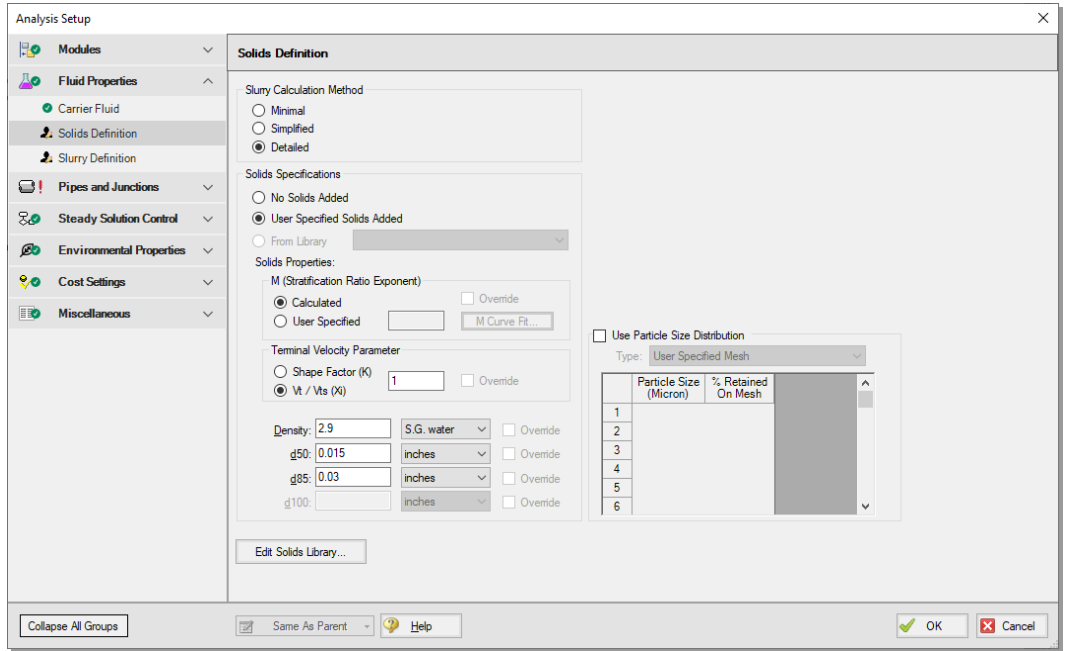

Figure 5.22 Fully Defined Solids Definition panel
8. Enter the following solid properties, as shown in Figure 5.22: